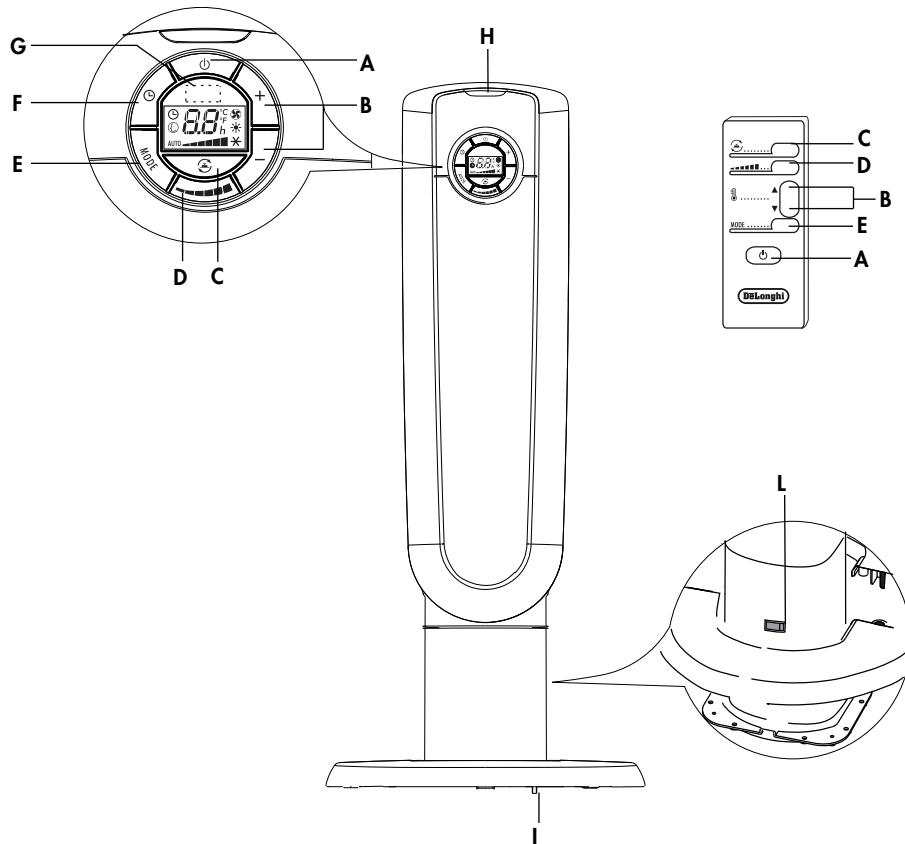

Fig. 3
3. Pass the power cable through the opening in the base (see figure 3).